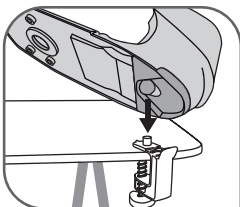

Fig.2
- Click the base onto the EasyFix System – fig.2 and 3.